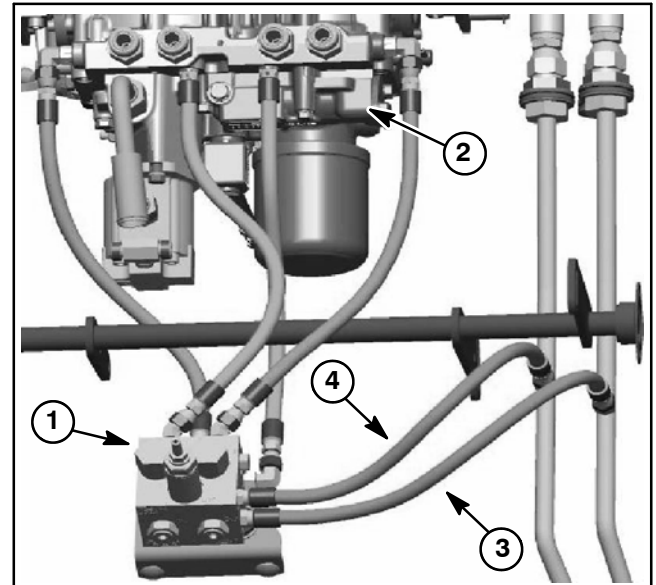

Figure 120
4. Thoroughly clean hydraulic hose ends prior to disconnecting hoses from the AWD control manifold. Label all hydraulic connections for assembly purposes (Fig. 120).
5. Disconnect hydraulic hoses from control manifold. The hoses at control manifold ports LR and RR need to be disconnected at hydraulic tubes before removal from manifold (Fig. 120).
8. Remove two (2) cap screws (item 1) and washers (item 5) that secure manifold to mount plate. Remove manifold from machine.
9. Locate and retrieve washers (items 5 and 8) from top and bottom of mounts (item 4).
4. Position washers (items 5 and 8) to top and bottom of mount (item 4). Secure control manifold to machine with two (2) cap screws (item 1) and washers (item 5).
6. Lubricate and install new O-rings on control manifold fittings. Using labels placed during manifold removal, correctly connect hydraulic hoses to control manifold and hydraulic tubes (Fig. 120) (see Hydraulic Hose and Tube Installation in the General Information section of this chapter).